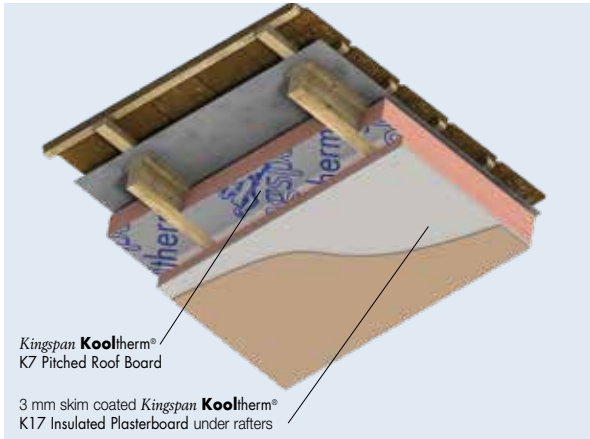

Figure 7 – Mechanically Fixed to Timber Rafters with **Kingspan Kooltherm® K7 Pitched Roof Board** Between Rafters
- Sheets of **Kingspan Kooltherm® K17 Insulated Plasterboard** may be used to line ceilings (see Figure 7).